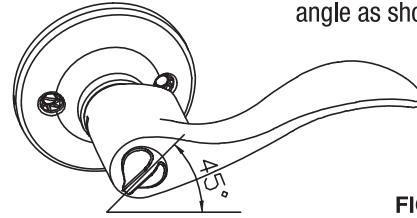

FIGURE 2
- 1) Set the lock button to a 45° angle as shown in figure 2.